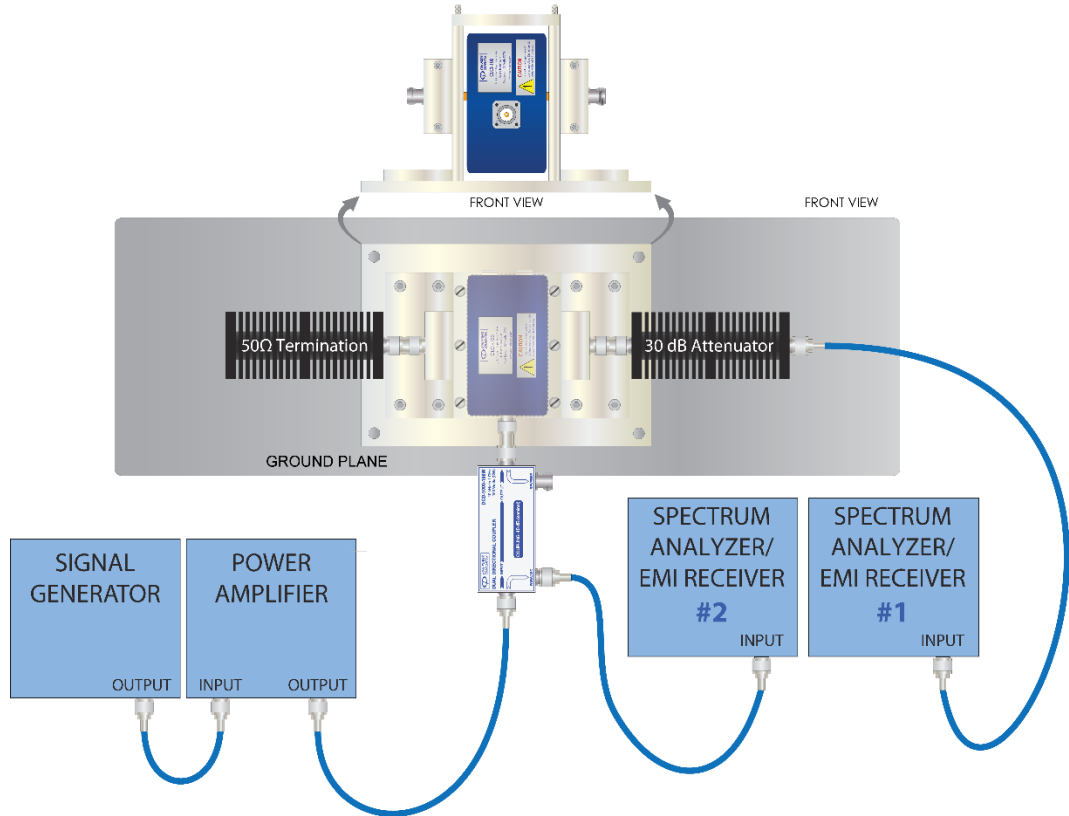

Figure 18 –Example Test Setup Diagram for Calibration of Test Levels
- 1) Set up the equipment as described in the applicable standard or approved test plan. An example setup diagram is given in Figure 18.